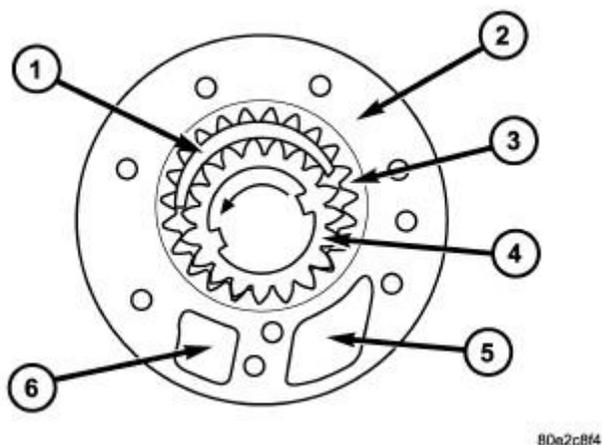

Fig. 174: Identifying Oil Pump Components
When the engine is running, the oil is pumped through the inlet chamber (5) along the upper and lower side of the crescent (1) to the pressure chamber (6) of the housing. Refer to **Fig. 174**. The meshing of the teeth prevents oil flowing from the delivery side to the intake side. An external gear (3) is eccentrically mounted in the pump housing. The external gear is driven by the internal gear (4) which is connected to the torque converter hub.